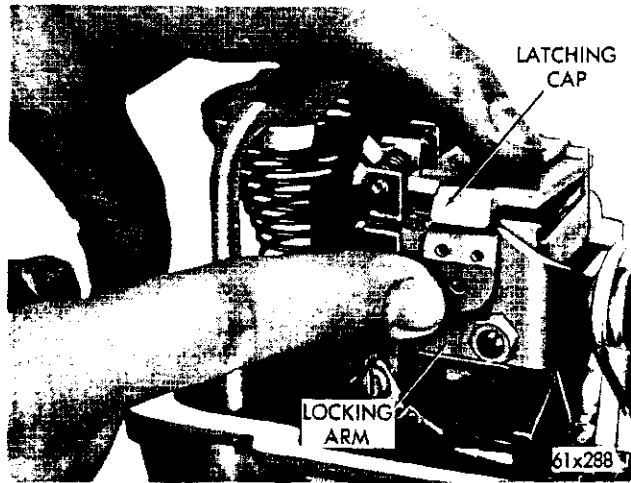

Fig. 41—Latching Arm to Magnet Assembly
(2) Turn the ignition "ON", but do not start the engine.
(3) Move the locking arm against the magnet and push the latching cap down to lock the magnet assembly and lock together (Fig. 41).